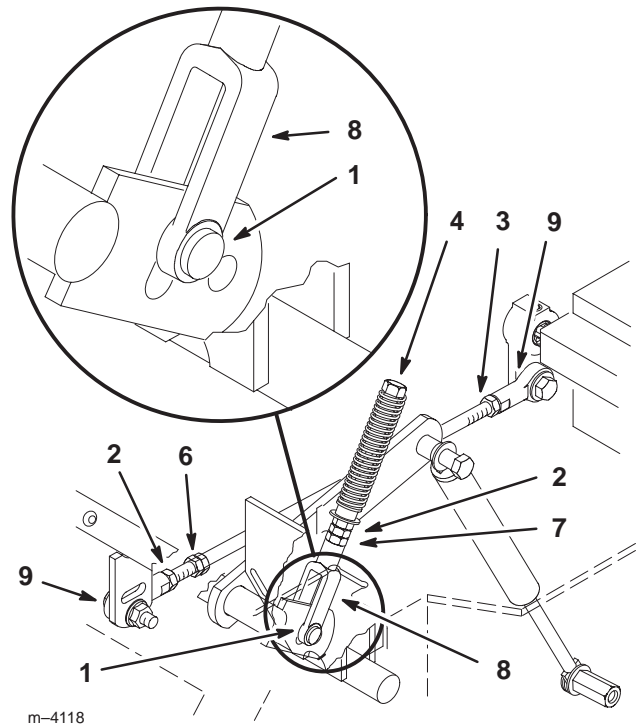

Figure 45
6. Pull lever back until the clevis pin (on arm below pivot shaft) contacts the end of the slot (just beginning to put pressure on the spring) (Fig. 45).
8. If adjustment is needed, loosen the nut and jam nut against the yoke (Fig. 45).
10. Tighten the nut and jam nut (Fig. 45).
1. Loosen the locknuts at the ball joints on pump control rod (Fig. 45).
3. Adjust pump rod length by rotating double nuts on rod, in the appropriate direction, until wheel is still or slightly creeps in reverse (Fig. 45).
- Tighten the nuts at the ball joints (Fig. 45).